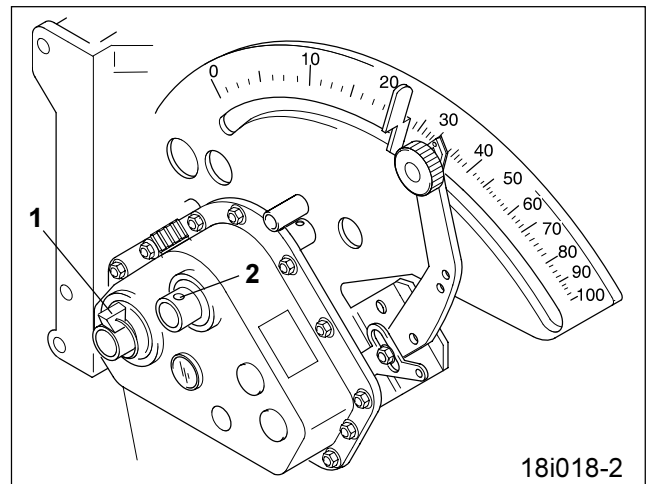

Fig. 22.2
- On the gearbox pull the clip pin (Fig. 22.2/1) out of the hole (Fig. 22.2/2) located on the gearbox tubular shaft and insert into the hole of the auxiliary shaft as illustrated. The drive of the agitator shaft is then disengaged.